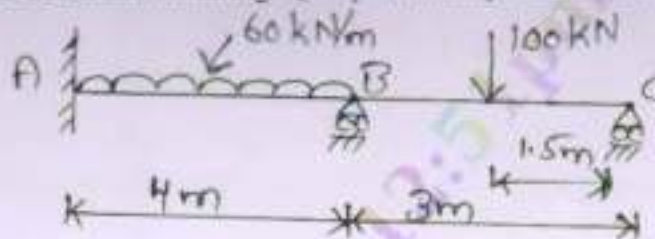

Fig. Q7
- 7 Analyze the continuous beam shown in Fig. Q7 by flexibility matrix method. Draw BMD.